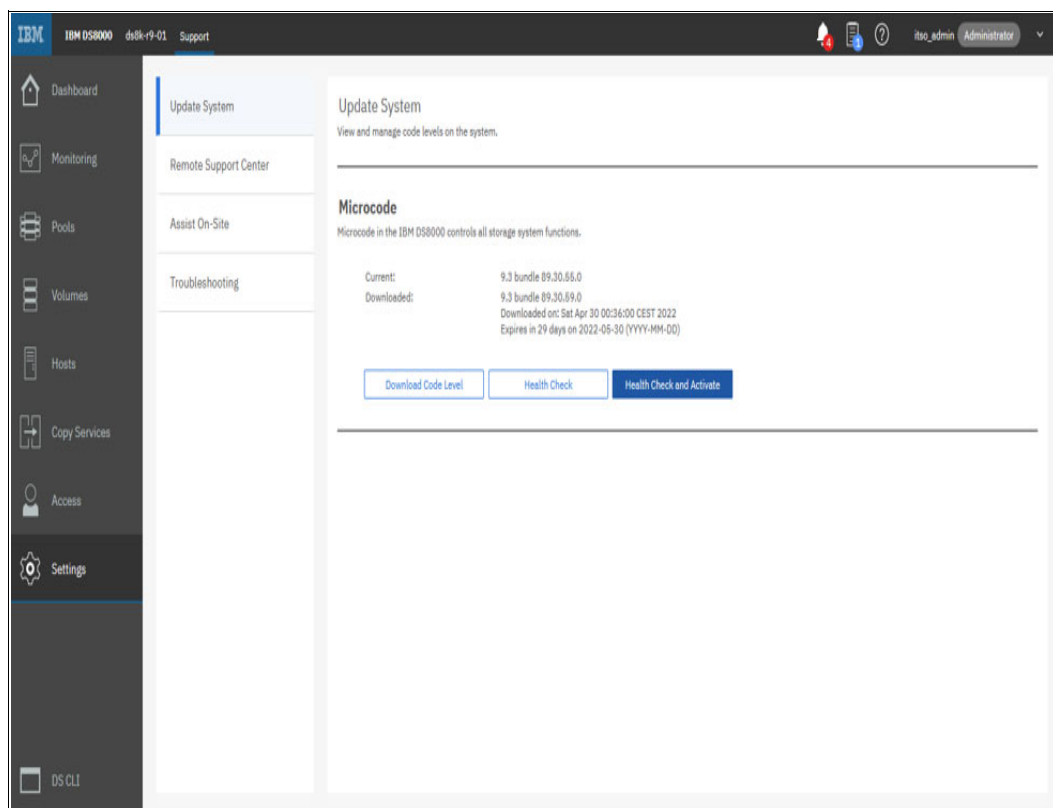

Figure 11-9 Update System: Ready for Activation
4. After closing the window, the option Health Check and Activate is available. Also, you can see and confirm which code level was downloaded, and how many days are left before the code expires, as shown in Figure 11-9.